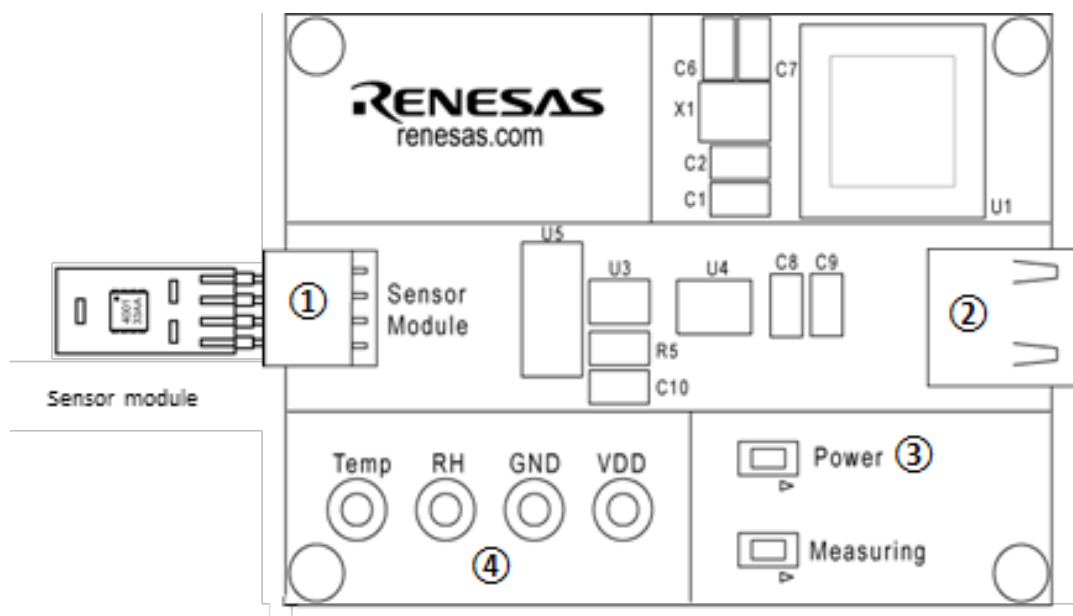

Figure 3. Evaluation Kit Connections
Complete the following procedure to set up the kit as shown in Figure 3:
The plotter ⑥ displays the measured relative humidity and temperature data simultaneously versus time (see Figure 3).